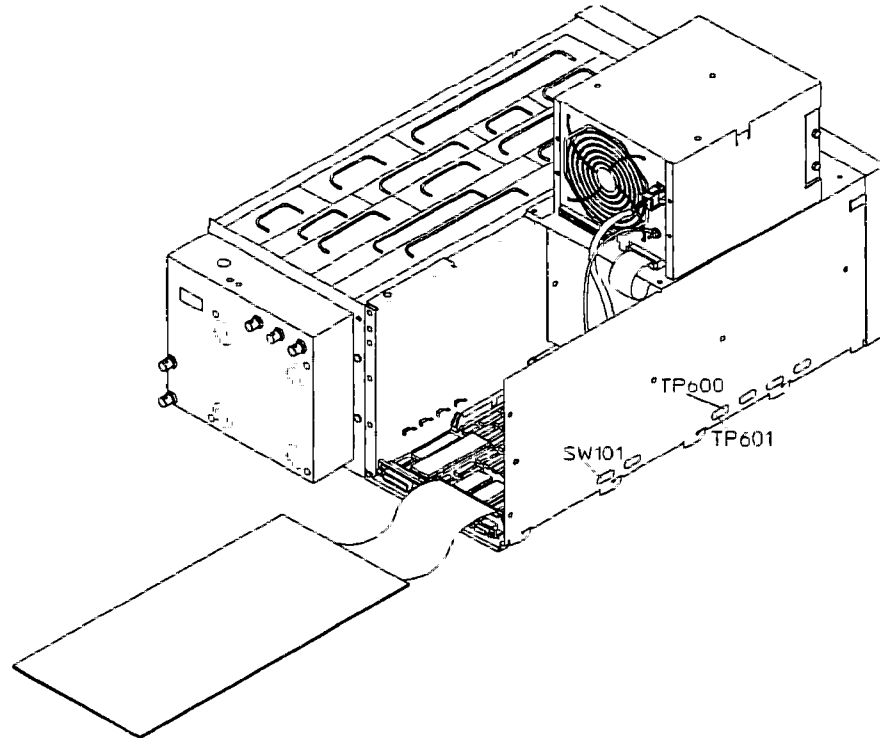

Figure 4-9. IIC Bus Test Locations
4. Set the power switch to ON (1). Press SW101 (reset switch) while monitoring TP600 (SCL) and the power-on test LEDs (see figure 4-9). If the CPU assembly is operating correctly, the TTL logic level at TP600 toggles when SW101 is released and a couple of times when 00 is displayed.